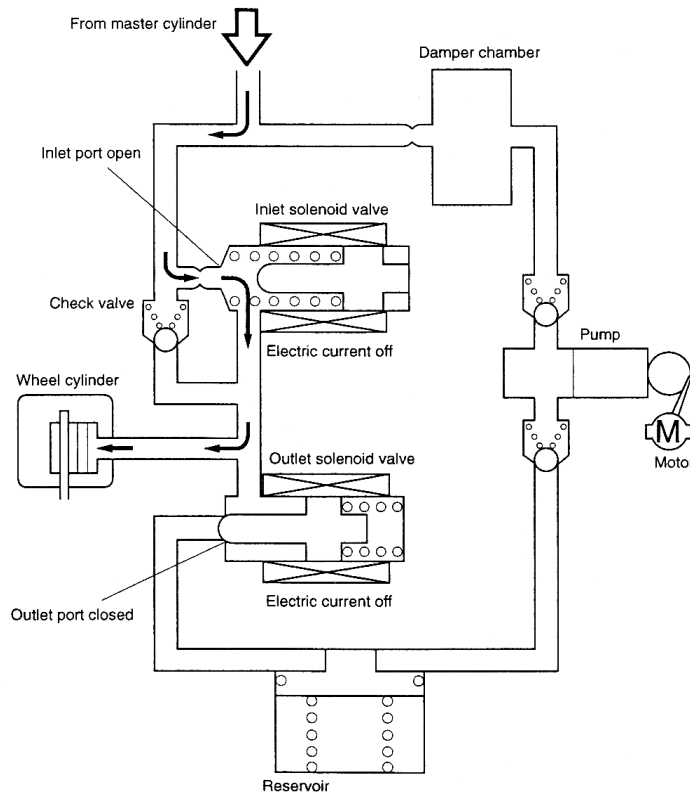

Figure 3: Normal braking position
- a) **Figure 3** shows the layout of the Antilock Braking System (ABS) when the system is in normal braking position.
By referring to the **Figure 3**,